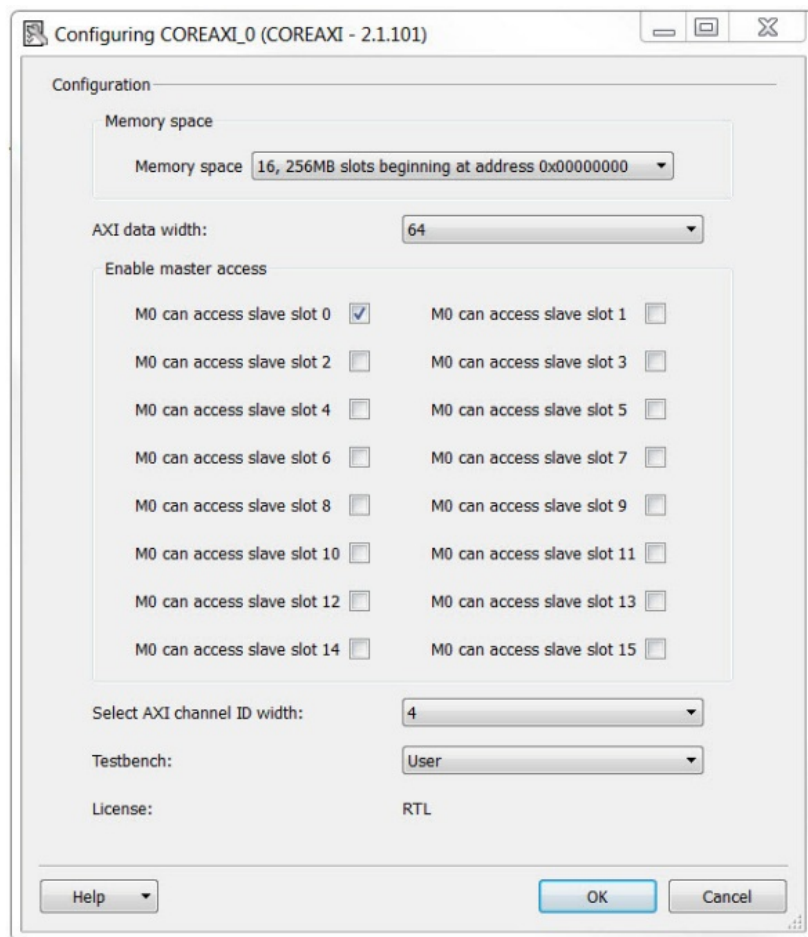
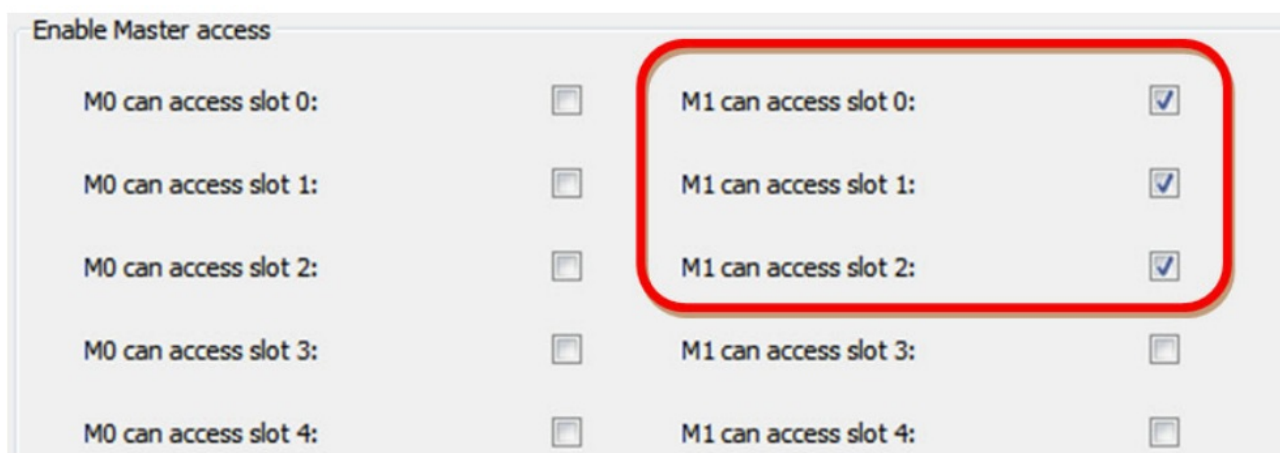

Figure 4-2 • CoreAXI Configuration – SMC_FIC Mode
Figure 5-5 • Master/AHBLite Master Access Configuration
1. Instantiate and configure the CoreAXI such that the master slot M0 is enabled for the slave slot S0, as shown in Figure 4-2. Since you are addressing an external memory via a soft memory controller, your slot size selection should match the amount of external memory space that you plan on addressing from the Cortex-M3 processor or any master writing to that external memory via the MSS DDR bridge.
- Enable the slots that you are using for your application (Figure 5-5). Best practice is to use the M1 to slot accesses as shown in Figure 4-2 on page 15.